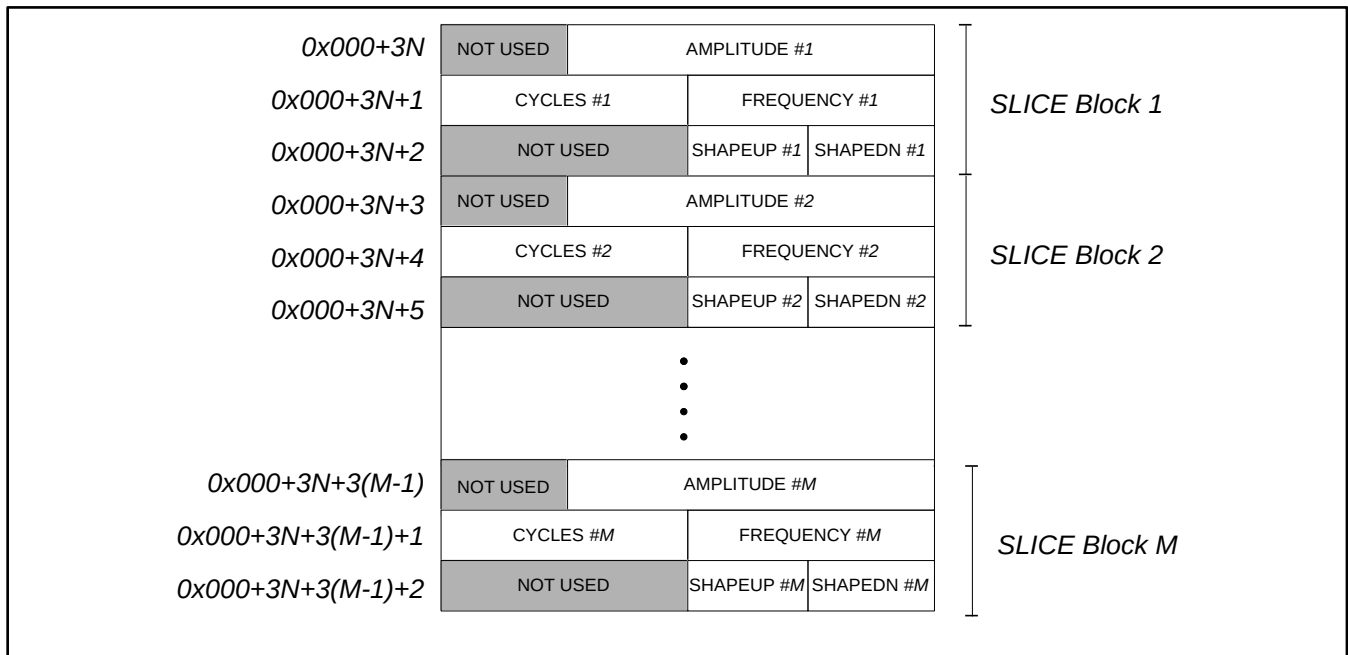
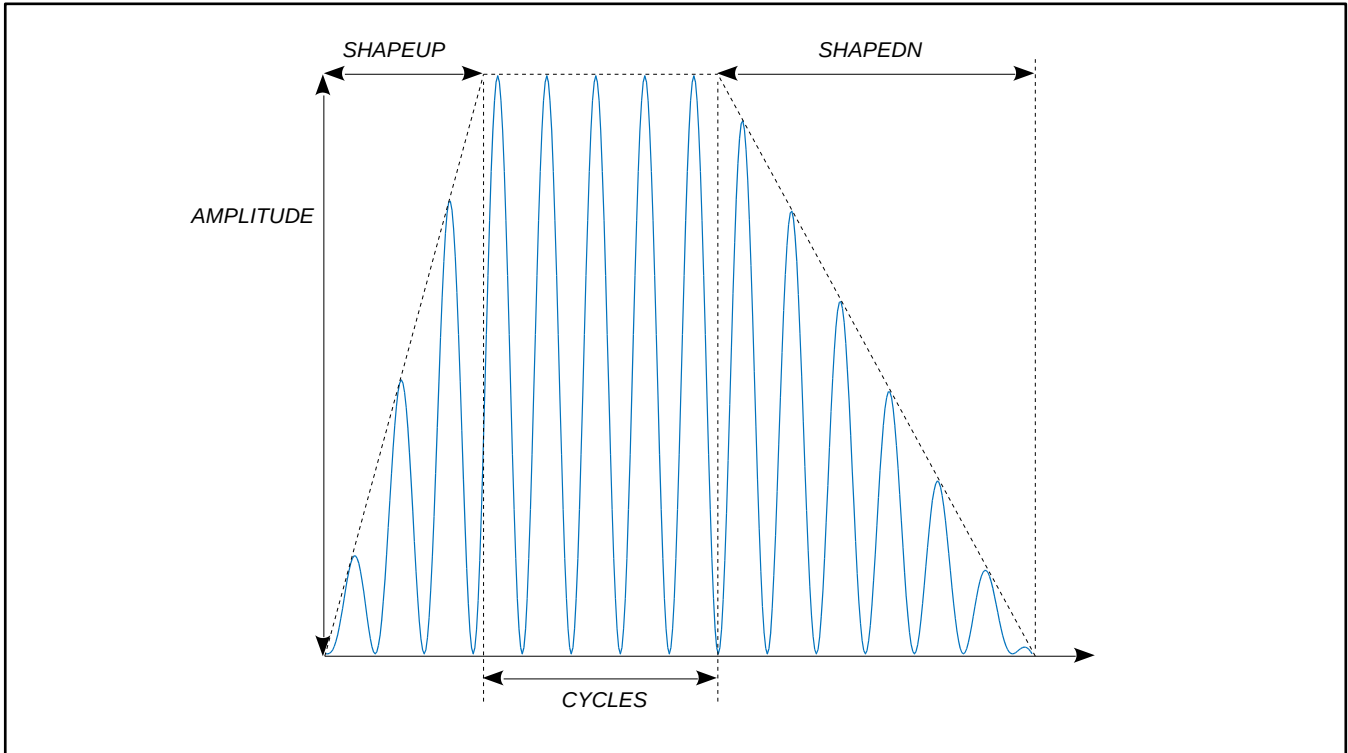

Figure 16: M SLICE blocks in RAM preceded by N WAVE blocs
Figure 17: Sine wave SLICE parameters illustration
- 1) SLICES, written in RAM using the RAM SYNTHESIS WRITE command. Each SLICE contains a group of parameters used to produce a sine wave of defined amplitude, frequency, and number of cycles. It may also be ramped up and down (as shown in Figure 17). See section 6.8.1.1 for more details.
SLICE blocks in RAM contains the parameters used to synthesize sine waveforms. Each SLICE block contains three words grouping five parameters as described in Figure 16 and Table 13. The Figure 17 illustrates how SLICE parameters shape a SLICE waveform. Many SLICES may be successively played to form complex waveforms.